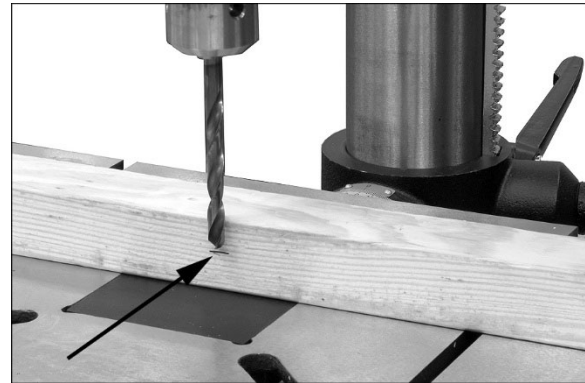

Figure 8-6: method #2
1. Mark the desired depth of cut on the side of the workpiece (Figure 8-6).
2. Loosen lock handle (H) and use downfeed handle (G) to lower the bit to the mark. Hold downfeed handle in position.
3. Rotate lock ring (J) *counterclockwise* as far as it will turn. You should be able to feel and hear when lock ring reaches the end of its rotation.
4. Tighten lock handle (H).
6. To release depth stop, loosen lock handle (H).